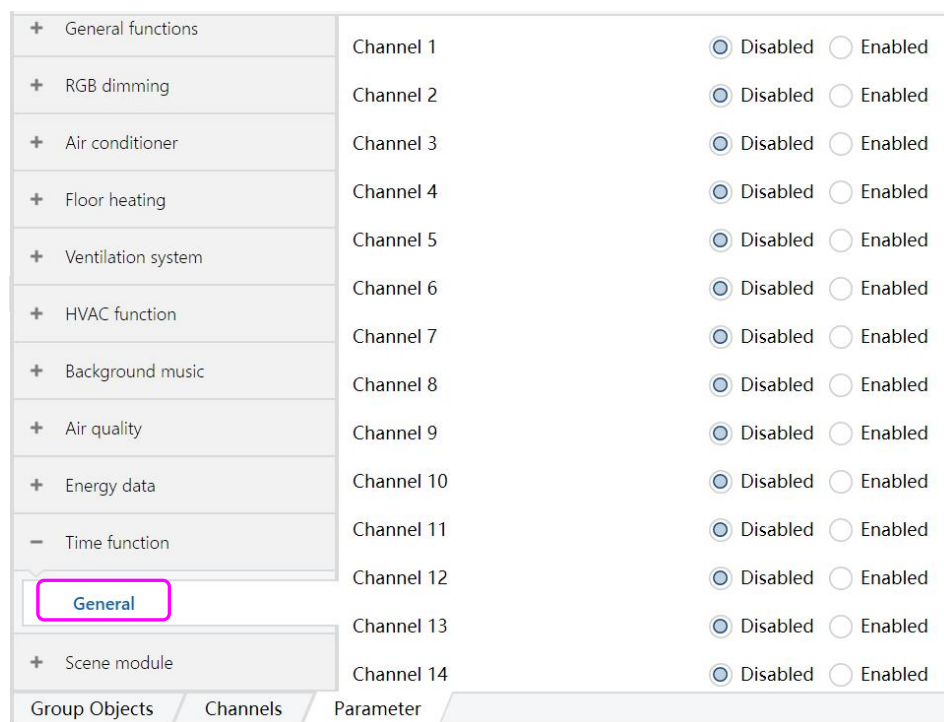

Figure 6.12.1
(1) Click on the option in the red box below to set the relevant parameters, as shown in Figure 6.12.1